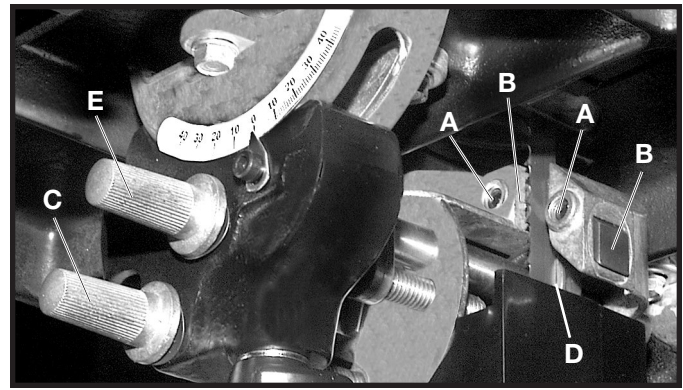

Fig. 56
1. Adjust the front edge of the guide blocks (B) Fig. 56 so that they are just behind the “gullets” of the saw teeth. Turn the knurled knob (C) Fig. 56 to make this adjustment. Check the support bearing (D) Fig. 56. It should not be touching the back of the blade.
2. Loosen the two screws (A) Fig. 56. Move the guides (B) as close as possible to the side of the blade, being careful not to pinch the blade. Tighten screws (A).
3. Turn the other knurled knob (E) to adjust the lower blade support bearing (D) Fig. 56 so that it is about 1/64" behind the back of the blade.